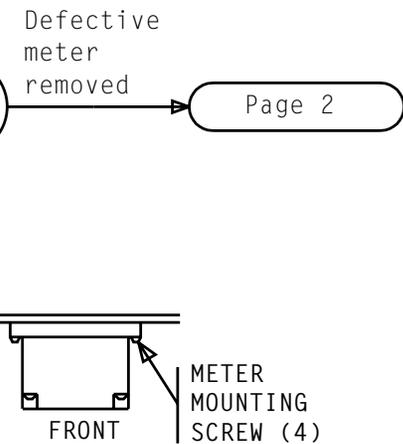

Figure 2 - Mounted Meter - Top View
- [9] Remove and discard four meter mounting screws [Figure 2] holding meter to mounting bracket and remove meter